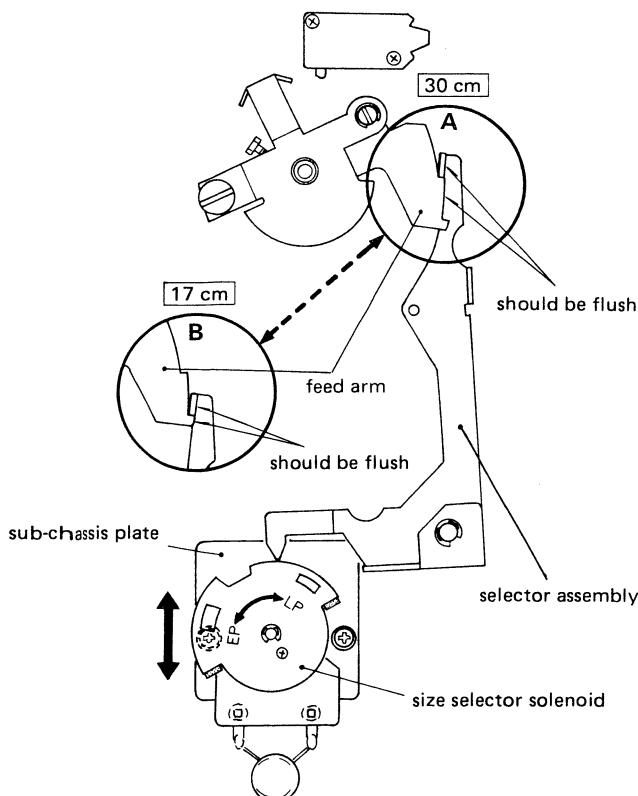

Fig. 4-8
7. Adjust the sub-chassis plate position in either direction as shown by the arrow so that the relation of the position between the selector assembly and the feed arm is that as shown at A in Fig. 4-8.
10. Check that the relationship shown at B in Fig. 4-8 is obtained (if correct for 30-cm size, adjustment should not be necessary).